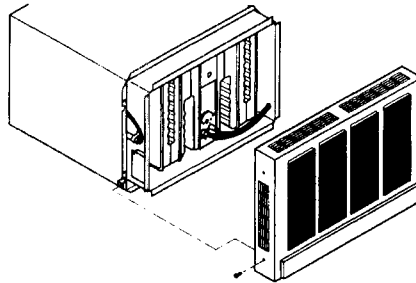

Figure 17 - Attaching Front Grille to Cabinet
2. Secure the sides of front grille to lower sides of furnace cabinet with two screws provided (see Figure 17).